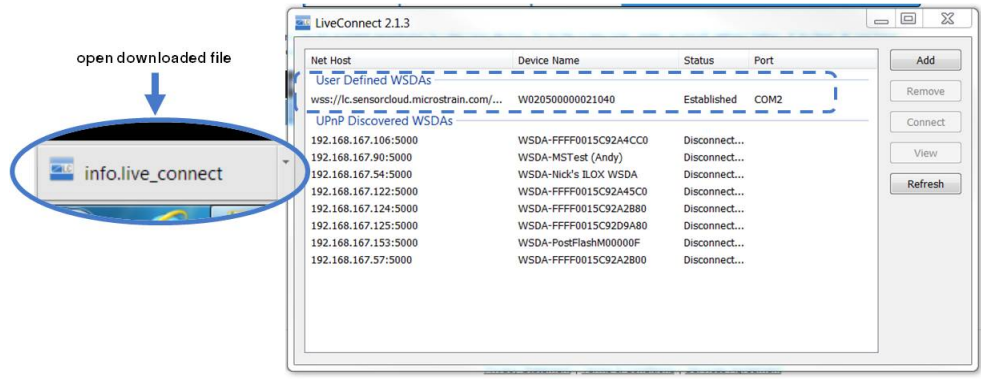

Figure 28 - Remote Live Connect Connection
2. When the button is selected a file download (info.live\_connect) will begin. Open the file when the download is complete, and Live Connect will open automatically. The device will appear in the Live Connect window under User Defined WSDA's (*Figure 28 - Remote Live Connect Connection*).